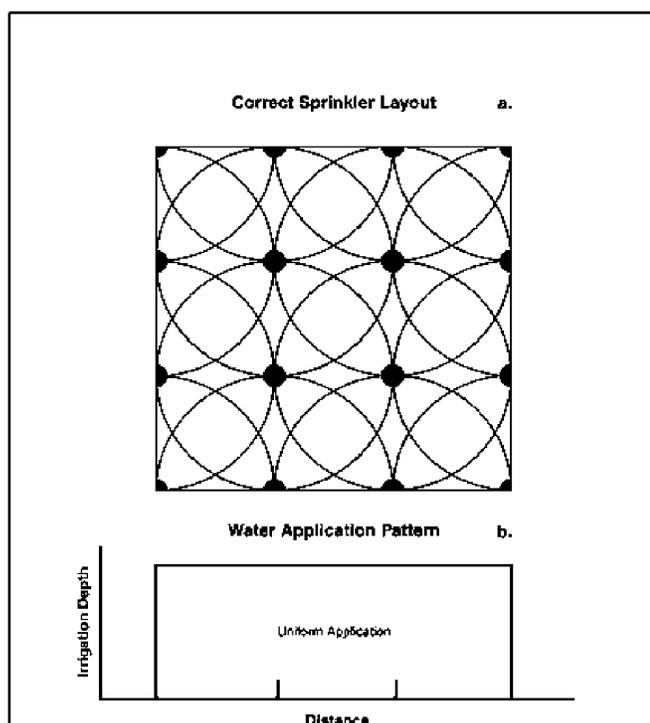

Figure 2. Sprinkler layout.
Figure 2 shows an example sprinkler distribution for a rectangular area.
To calculate the volume of water that must be applied at each sprinkler irrigation position use Table 1. The layout in Figure 2 is used for the example in Table 1.
1. Draw a diagram of your sprinkler position layout (similar to Figure 2.)